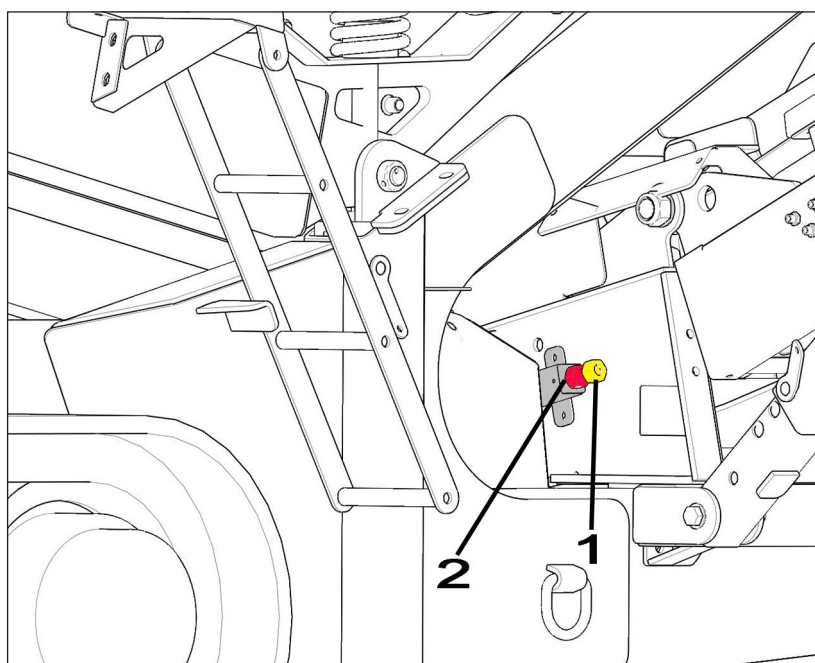

Figure 6.1 - Conveyor Belt Tensioner
5. Tighten the conveyor belt by adjusting both belt adjusters evenly one turn at a time. Slacken bolt 2 then adjust using bolt 1. Retighten bolt 2 after adjustment Ref: Figure 6.1
5. Tighten the conveyor belt by adjusting belt adjuster evenly one turn at a time. Slacken bolt 2 then adjust using bolt 1 Ref: Figure 6.1. Retighten bolt 2 after adjustment